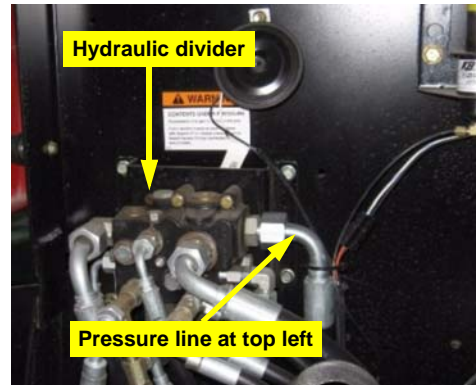

Figure 3a: Pressure line location
The hydraulic steering block will receive pressure from the hydraulic divider mounted on the front side of the firewall (Figure 3a).
- a. Disconnect the pressure line from the top left of the hydraulic divider (Figure 3a).